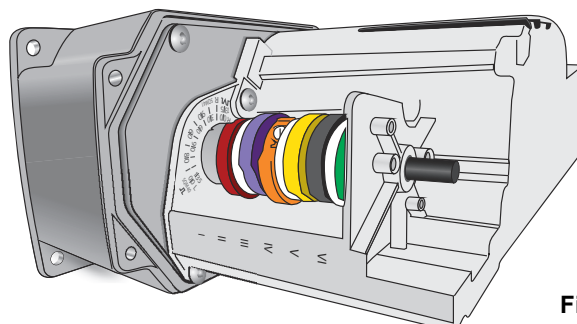
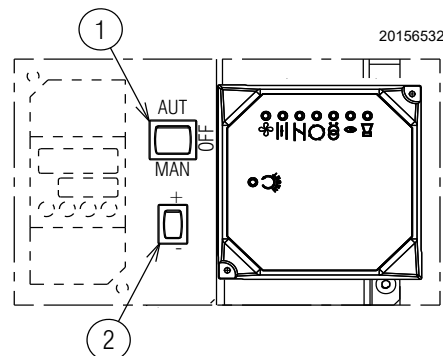

Fig. 29
Fig. 30
The servomotor (Fig. 29) provides simultaneous adjustment for the air damper, by means of the adjustable profile cam and the gas butterfly valve. Completes a rotation of 90° in 30 s. After the adjustment made in the factory to its 6 cams to allow an initial ignition. Check that they are as shown below. In the event of a modification, follow what is described below for each cam:
Put the selector 1)(Fig. 30) in position "MAN".
- put the switch 1)(Fig. 30) to "OFF" and wait for the control box carries out the switching off phase;
The air is adjusted by varying the angle of cam III) (Fig. 29) and by using the selector 2)(Fig. 30). To adjust the cam of the servomotor, see Fig. 33 A).
In the above instructions we left the burner running at the MIN output. Now press the "increase output" button 2)(Fig. 30 on page 28), and keep it pressed until the servomotor has opened the air damper and the gas butterfly valve.
The air is adjusted by varying the angle of cam I) (Fig. 29 on page 27) and by using the selector 2)(Fig. 30 on page 28). To adjust the cam of the servomotor, see Fig. 33 A).
Press button 2)(Fig. 30 on page 28) "Diminishing output" and keep it pressed until the servomotor regains (Fig. 33 B) the adjustment made in the factory: See Tab. K on page 27 and as a consequence adjusting the air damper 5) and the gas butterfly valve 4)(Fig. 32 on page 29).
The regulation of the air is carried out using the angle of the cam III) of the servomotor (Fig. 29 on page 27) and by using the selector 2)(Fig. 30 on page 28). To adjust the cam of the servomotor, see Fig. 33 A).
After adjusting the maximum and minimum output of the burner, carry out air adjustment on higher intermediate positions of the servomotor. The passage from one position to the next one is obtained by pressing the button 2) on the symbol (+) or (-) (Fig. 30 on page 28). For a brief period press the button 2)(Fig. 30 on page 28) "Output increase" so that the servomotor rotates by about 20°, see servomotor graduated index Fig. 33 B) and the air damper graduated index 5)(Fig. 32 on page 29).
Switch off the burner using the switch 1)(Fig. 30), OFF position, release the mechanical cam I)(Fig. 32) to separate the gears of the servomotor, pressing and shifting downwards the button 3)(Fig. 33 D) and check a few times, by rotating the mechanical cam I)(Fig. 32) manually backwards and forwards, that the movement is smooth and without any hindrance.